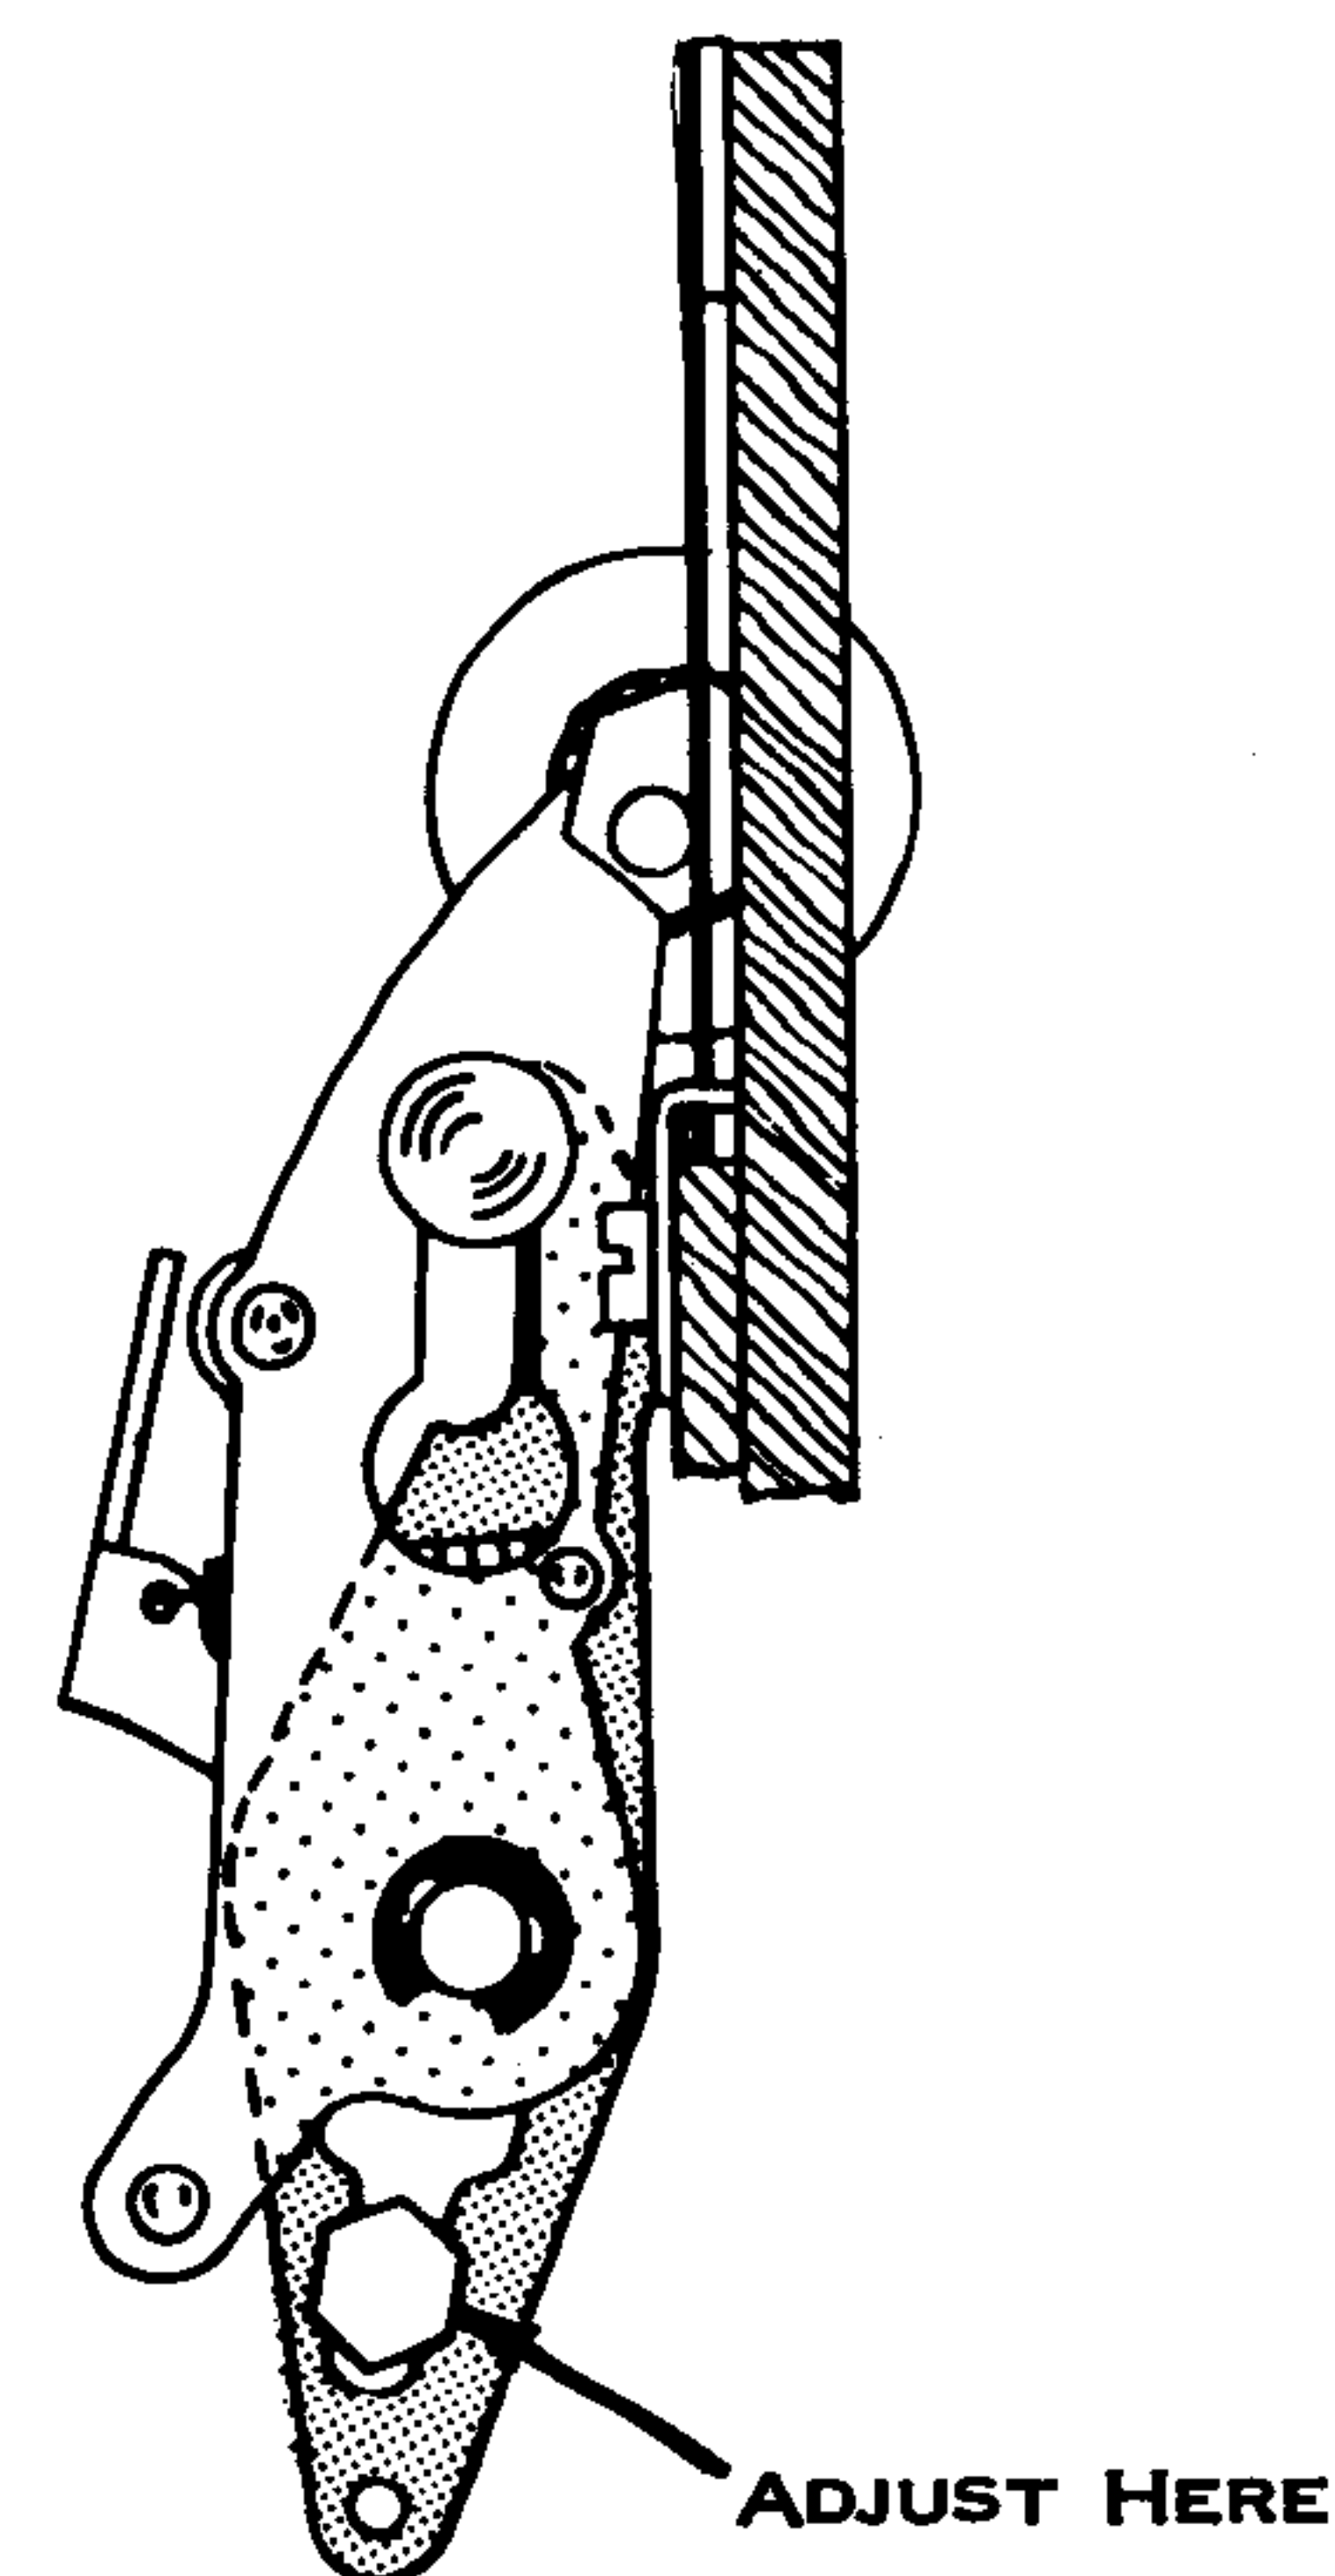

Figure 81. Rotate Arm Movement
7. Rotate Arm Movement (Fig. 81) - The lower adjustable portion of the rotate arm should be moved up or down so that the upper case +5 character and upper case -3 character detent the same as the home character. A slight difference in detenting is acceptable provided that the -3 character detents more negative than the +5 character.